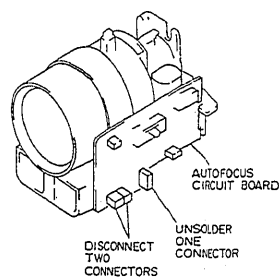
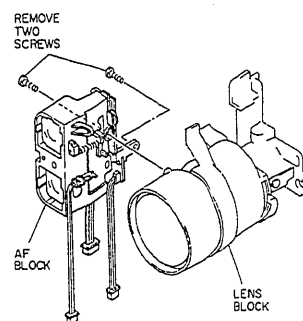

Fig. 2-104
Fig. 2-105
- 1) Disconnect two (2) connectors (CN02AF, CN03AF) on the autofocus circuit board. (See Fig. 2-104)
- 2) Unsolder one (1) connector (CN05AF) on the autofocus circuit board.
- 3) Remove two (2) screws and remove the AF block from the lens block. (See Fig. 2-105)